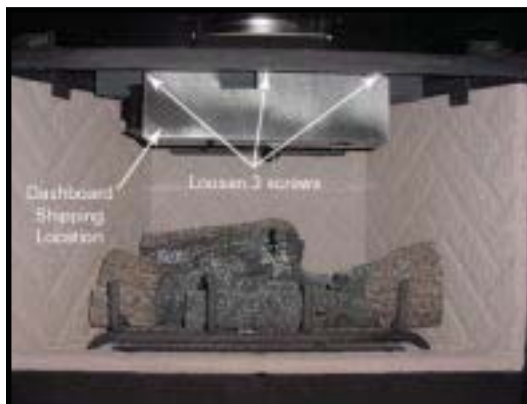

Figure 54 - Shipping Location of Dashboard
- Remove the dashboard (located in the upper firebox, center, attached with three screws). See Figure 54.